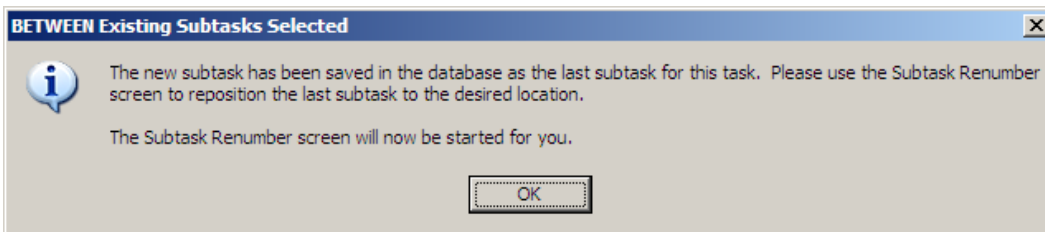
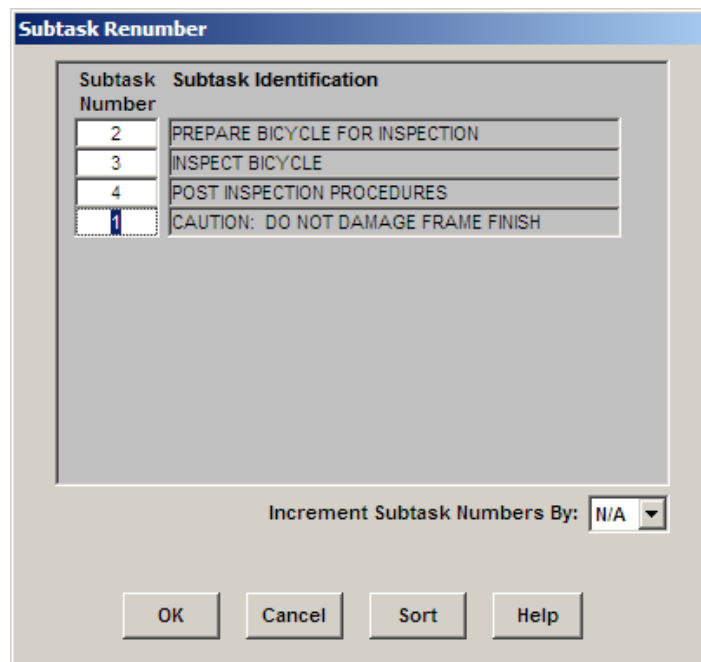

Figure 18. Between Existing Subtasks Selected Dialog Box.
Figure 19. Subtask Renumber Window.
- Choose **OK** to acknowledge the Between Existing Subtasks Selected Dialog Box (Figure 18). The Subtask Renumber Window is displayed as shown in Figure 19.
- Edit the Subtask Numbers as shown in Figure 19. (The CAUTION subtask should be the first subtask.)